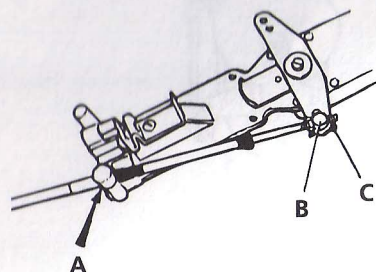

Fig. 9
- Push the gear cable through the holder and make sure the cable jacket hooks securely to the holder (A fig. 9).
- Connect the pivot to the gear lever (B fig. 9) and secure with the split pin. (C fig. 9)